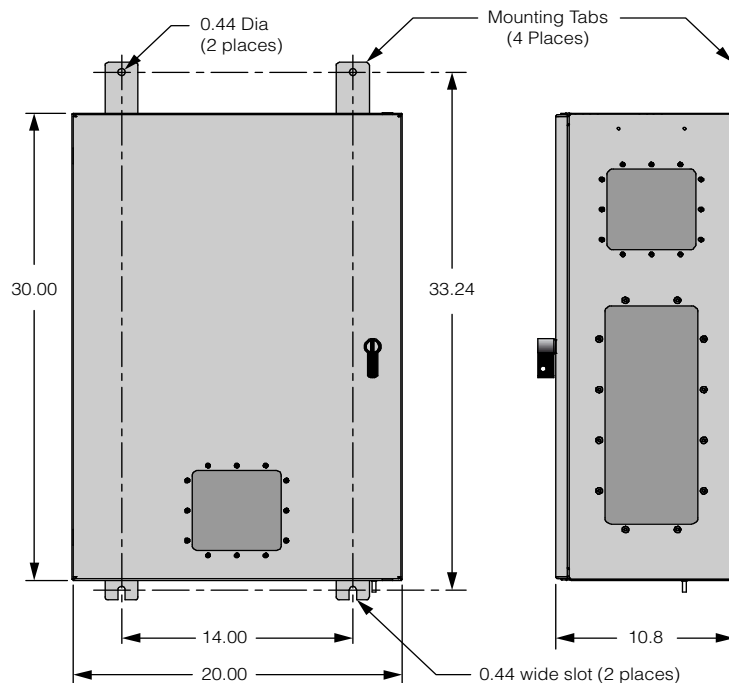

Figure 2: Cabinet mounting hole layout.
- Figure 2:** Cabinet Mounting 4
Figure 2 shows the mounting hole dimensions and layout for the cabinet. Mount the cabinet using 3/8" (10 MM) diameter steel bolts (not supplied). We recommend flat washers on both ends and a lock washer under the nut. Nut and bolt mounting is preferred to the use of lag bolts. Use backer blocks where necessary to spread the force over a larger area. In areas of known seismic activity, additional devices such as tether lines may be necessary.